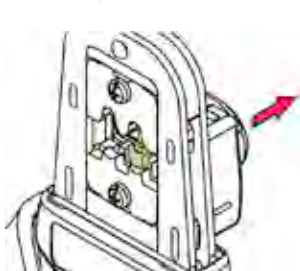
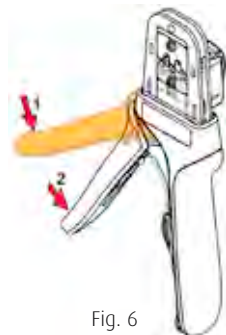

Fig. 5
Fig. 6
- ❖ Release the locator button, allowing the crimp contact to move back between the crimping jaws (Figure 5). Partially close the handle, until the second ratchet position engages (Figure 6). Load the stripped wire through the terminal, and against the wire stop inside the tool (Figure 7).